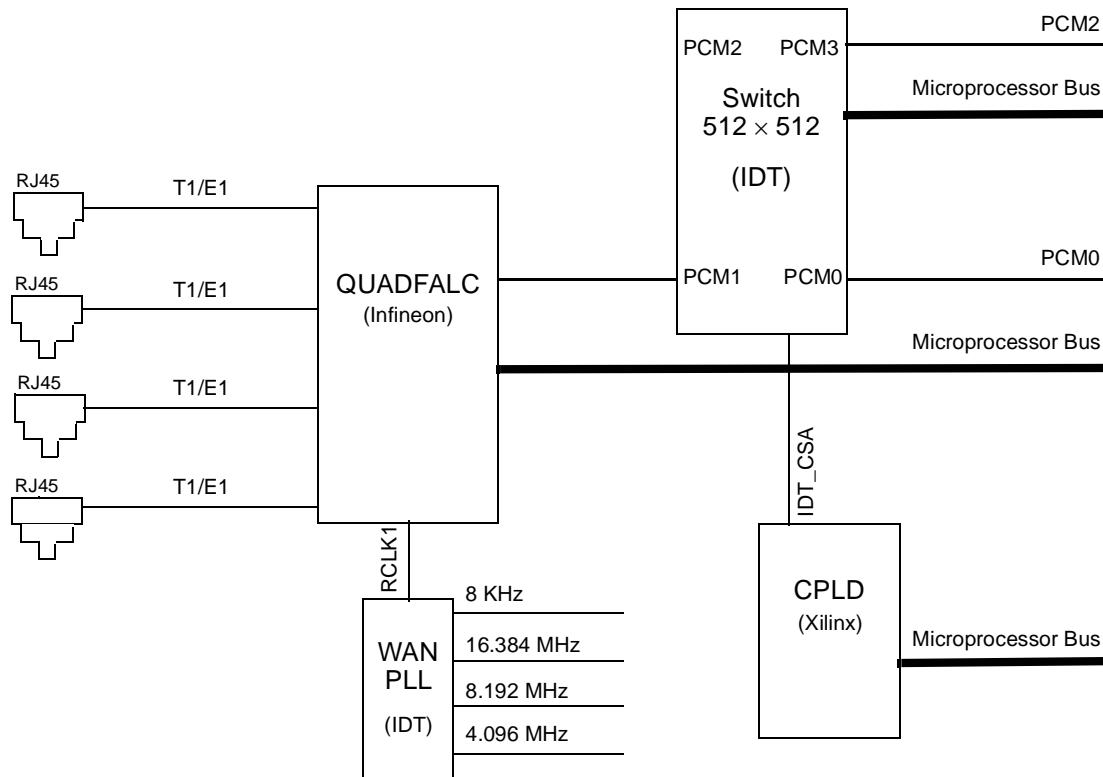

Figure 7. QUADFALC Connecting to Other Sub-modules of the PSTN Card
The digital E1/T1 interface supports four E1/T1 ports that can connect to central office (CO) lines such as ISDN PRI or PBX trunks. The Infineon QUADFALC FEB-22554 device forms the interface between the TDM interface to the TSI and the physical twisted copper pair. The QUADFALC recovers the PCM signal on the copper pairs and multiplexes them on the TDM bus to the TSI switch. There are four RJ-45 physical connectors on the PSTN card (see **Figure 7**). Each of the four digital interfaces of the QUADFALC includes a framer and a Line Interface Unit (LIU), a PLL circuit for clock recovery, an HDLC controller for signaling, and an 8-bit microprocessor interface for configuration.